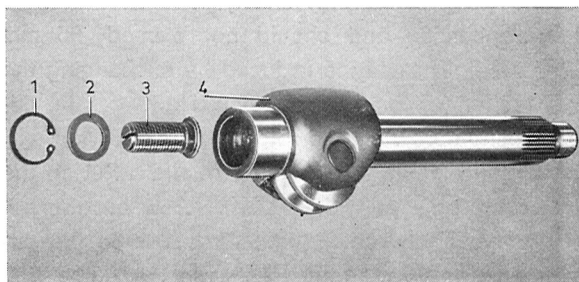

Fig. 6-55. Pitman arm shaft
5. Remove the lock nut (3) and screw the adjusting screw (2) out of the cover. The adjusting screw can be removed from the pitman arm shaft after the circlip has been removed, see Fig. 6-55.
4. Install the adjusting screw, washer and lock ring on the pitman arm shaft, see Fig. 6-55. The adjusting screw play axially should be as little as possible and should not exceed .05 mm (.002"). The play is reduced by exchanging the washer (2) for a thicker one. However, the adjusting screw should rotate easily afterwards.